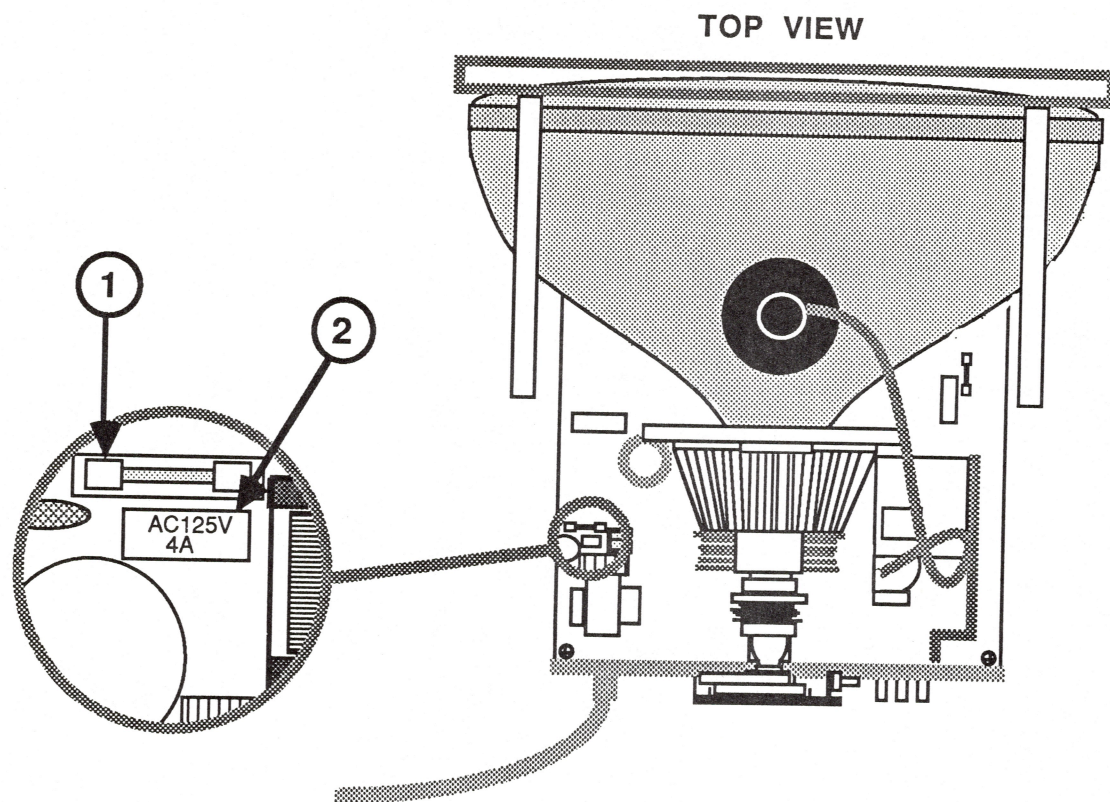

FIGURE 1
1. Replace fuse F901 (Figure 1, #1) with the new 4 Amp 125V fast blow fuse.
2. Attach the small label (Figure 1, #2) below the fuse holder (F901).